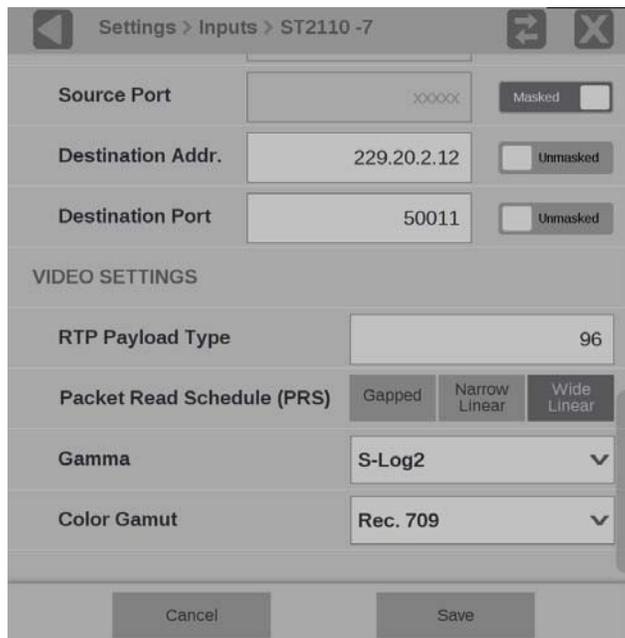

Figure 41: IP signal settings
1. Choose the appropriate **Gamma** selection from the drop-down menu. The selection characterizes the video signal on each virtual input. (See Figure 41.)